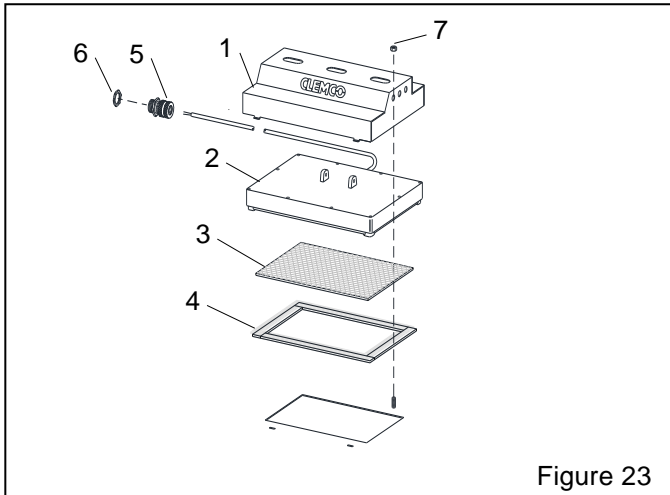

Figure 23
11.4 LED Light Assembly – Figure 23